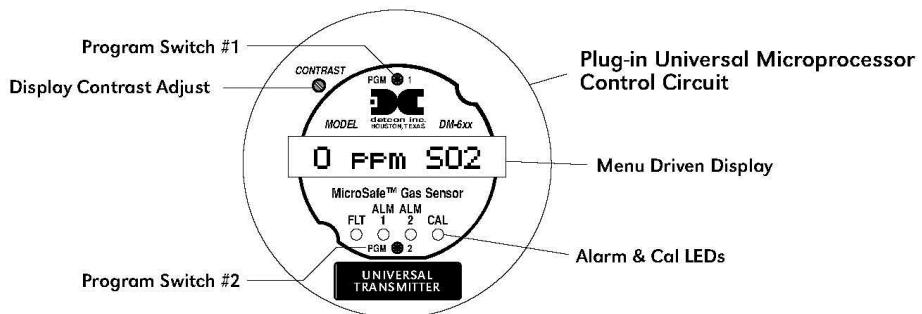

Figure 13 Programming Switch locations
A magnetic programming tool (see Figure 12) is used to operate the switches. Switch action is defined as momentary contact, 3-second hold, and 30-second hold. In momentary contact use, the programming magnet is waved over a switch location. In 3 second hold, the programming magnet is held in place over a switch location for 3 or more seconds. In 30 second hold, the programming magnet is held in place over a switch location for 30 or more seconds. Three and thirty second hold is used to enter or exit calibration and program menus while momentary contact is used to make adjustments. The location of “PGM 1” and “PGM 2” are shown in Figure 13.
- Enter the calibration menu by holding the programming magnet stationary over “PGM 1” (see Figure 13) for 3 seconds until the display reads “**1-ZERO 2-SPAN**” then withdraw the magnet. Note that the “CAL” LED is on.